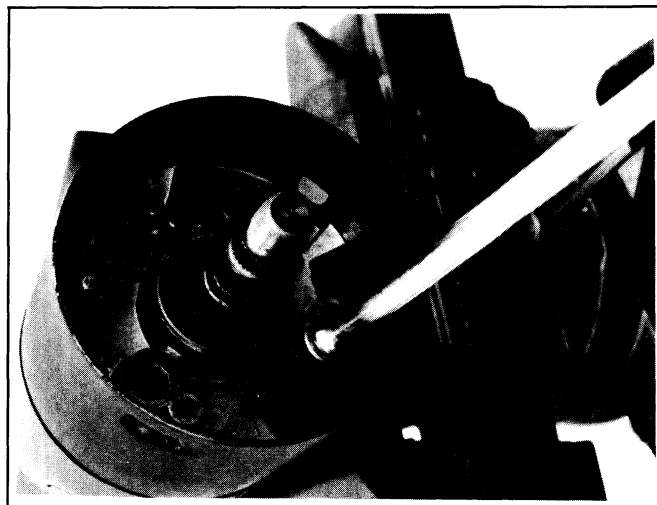

Fig. 3B-104--Removing Housing and Shroud to Jacket Screw - Corvette
2. Insert rack preload spring (Fig. 3B-107). Bow of spring out against rack.